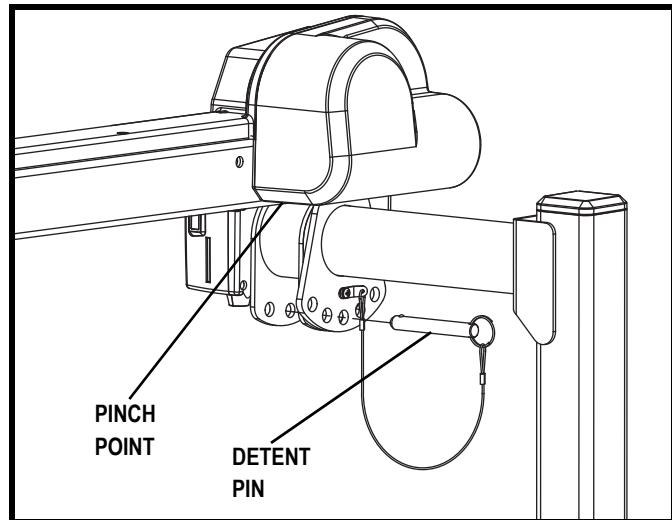

Figure 4. Securing the Boom Arm
NOTE: The angle of the boom arm can be adjusted to accommodate certain height limitations. See figure 4.
2. Remove the detent pin located between the boom arm and upper post. Guide the boom arm upward or downward to the desired position. **See figure 4.**
3. Reinsert the detent pin into the top of the upper post to secure the boom arm in place. **See figure 4.**